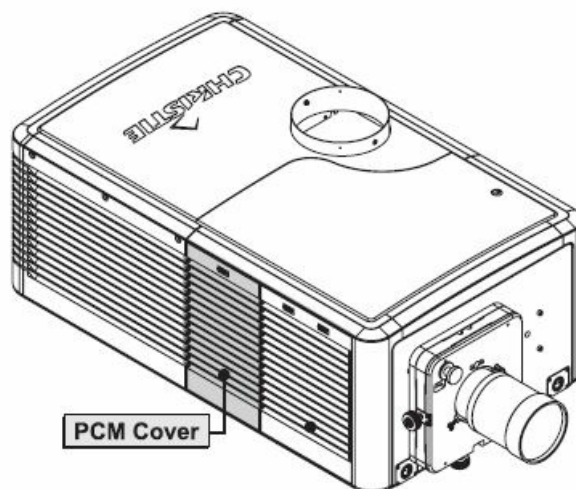

Figure 1
- Push on the tab at the top of the cover (Figure 1).